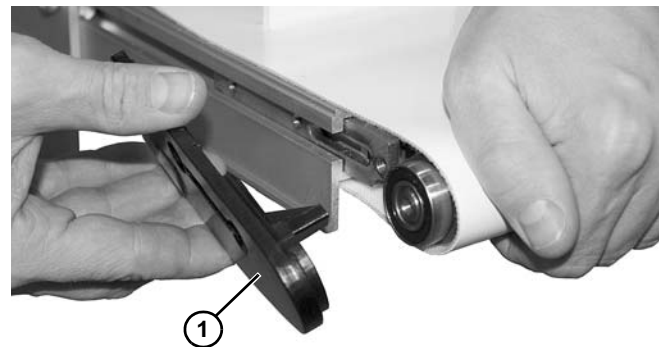

Figure 57
- Remove the head plate (**Figure 57, item 1**) from the conveyor frame, holding spindle in place.